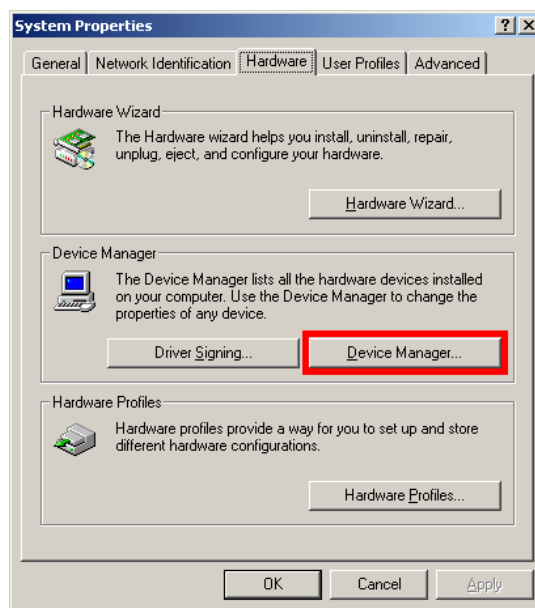

Figure 7-14: Device Manager Tab
Step 3: Click the **Device Manager** tab (Figure 7-14).